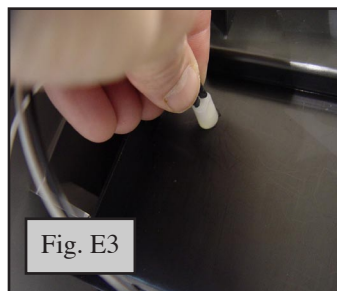

Fig. E3
3. From the back of the storage box, install the LED's onto the lenses. Press firmly while holding the Lens from the inside. Secure with foam pad. (Fig. E3)